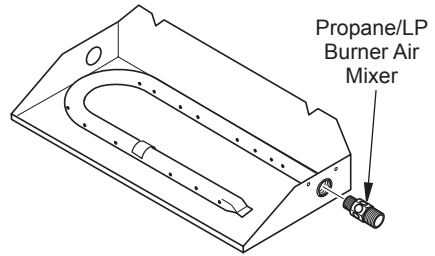

Figure 8
3. Using pipe sealant on the thread of the larger end of fitting, screw the propane/LP burner air mixer through hole and into burner manifold as shown in Figure 8. Tighten using a wrench.